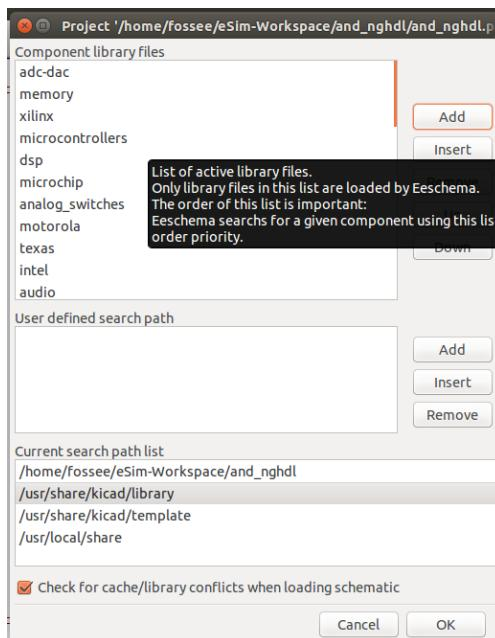
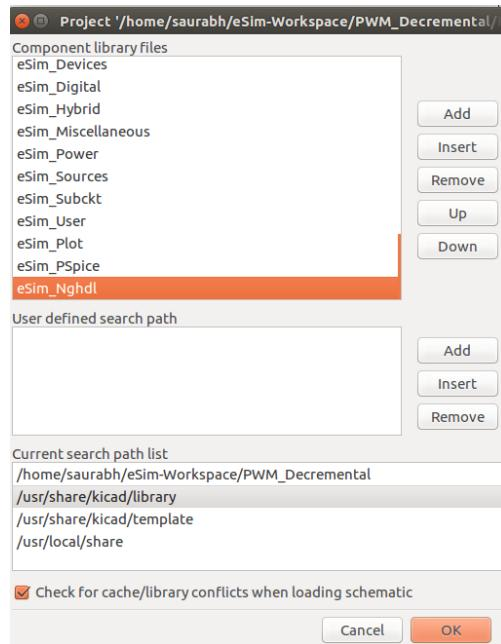

Figure 10.6: Adding the digital model library in KiCad
Figure 10.7: Selection of library
2. After successful upload of the model using the VHDL code, you can create the schematic of your design by clicking on Open Schematic button on the left pane of the eSim window. Then go to Preferences option on top of the schematic editor window and click on Component Libraries to add the library eSim_Nghdl.lib in KiCad. Following window will appear as shown in Fig. 10.6, where you will have
to click on *Add* button and select the `eSim_Nghdl` library. Refer Fig. 10.6 and Fig. 10.7.